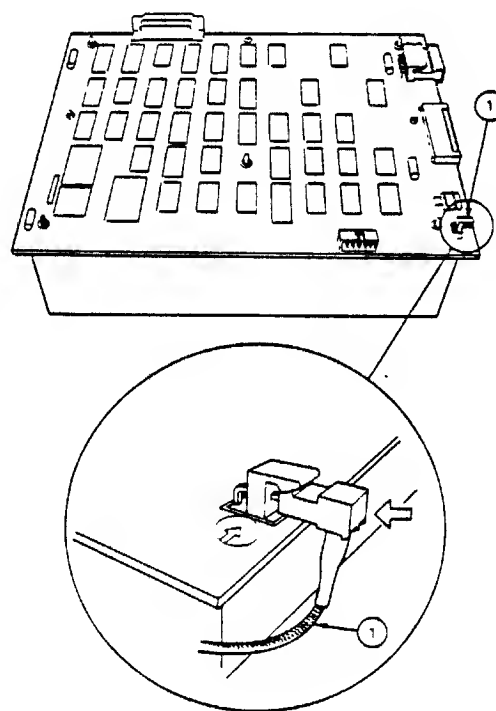

FIGURE 10
12. Connect the LED cable to the controller PCB (Fig. 10) and reinstall the cover.
6. Holding the controller PCB over the power supply, position the interface cable connector (Fig. 10, #6) in its slot in the rear plate.